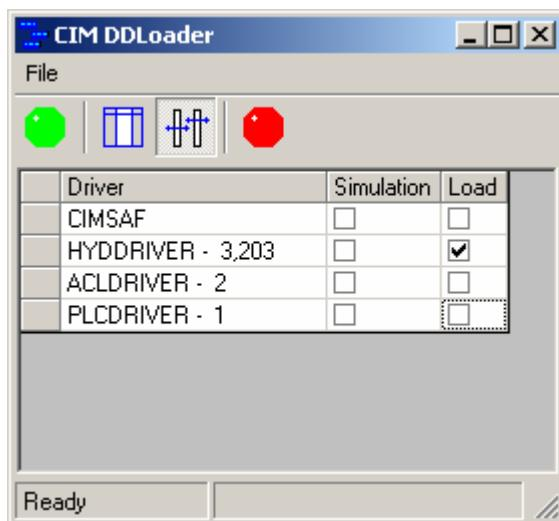

Figure 9-29: CIM DDLoader
- Select the **Loader** icon of the workstation where the hydraulic device driver is installed. The CIM DDLoader window is displayed, as shown in Figure 9-29: CIM DDLoader.